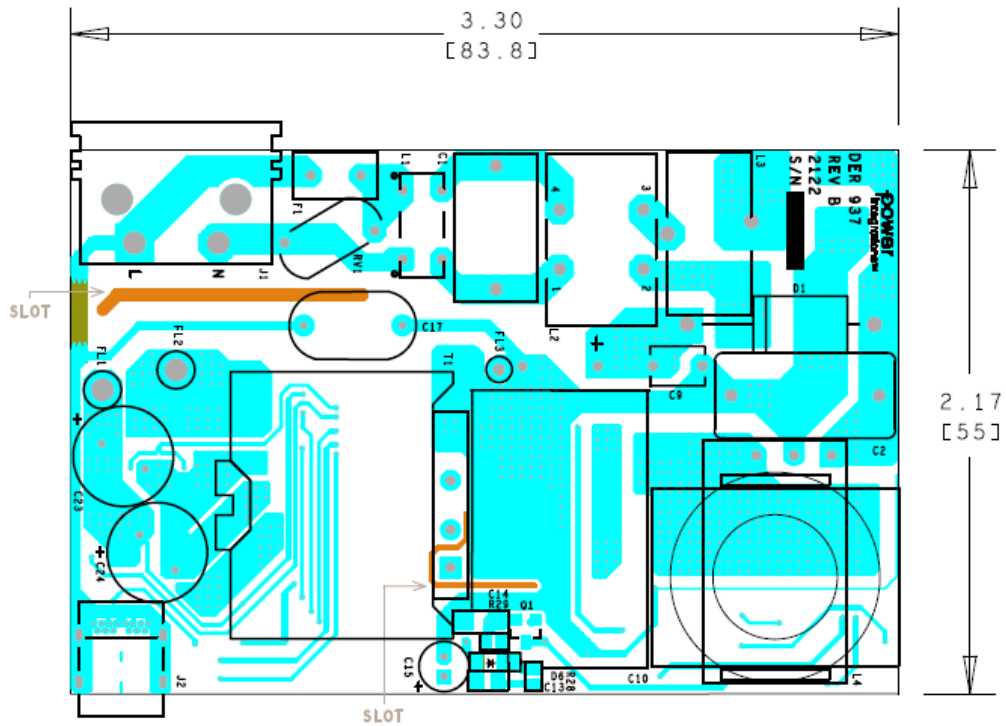

Figure 8 – DER-937 RevB PCB Layout, Top.
The PFC bias supply is derived from the flyback stage auxiliary output as shown previously in Figure 8. From a single bias winding, two rectified and filtered voltages are created: (1) VBIAS\_Fast generated using US1DWF-7 ultrafast recovery diode D6, RC snubber R28 and C13, series resistor R29, filter capacitor C14, and shunt resistor R31; and (2) VBIAS\_Slow generated using S1MLHRVG standard recovery diode D7, series resistor R30, and filter capacitor C15.